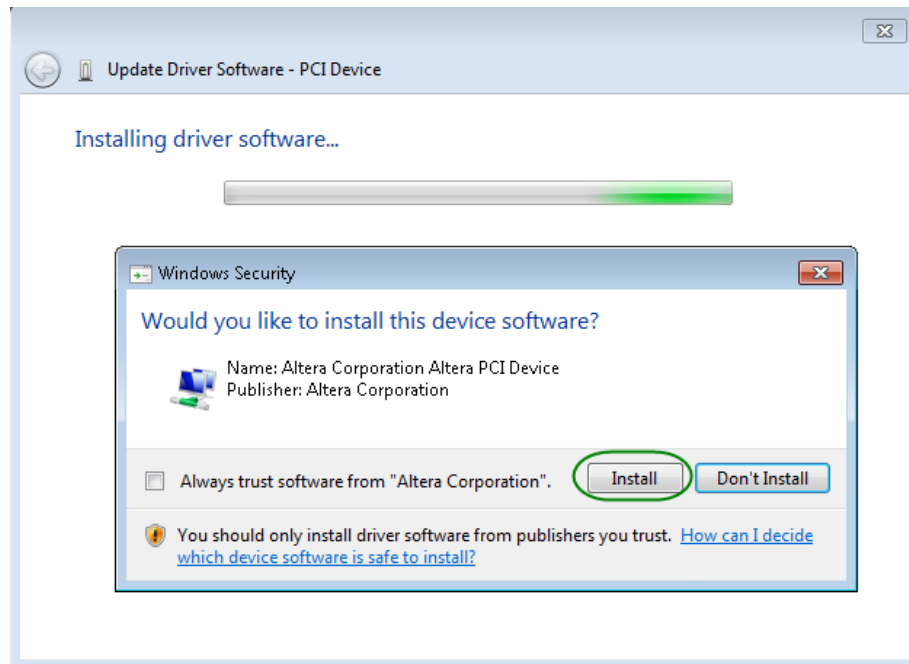

Figure 4-6 Click Install in the dialog of Windows Security
10. When the **Windows Security** dialog appears, as shown Figure 4-6 , click the **Install** button.